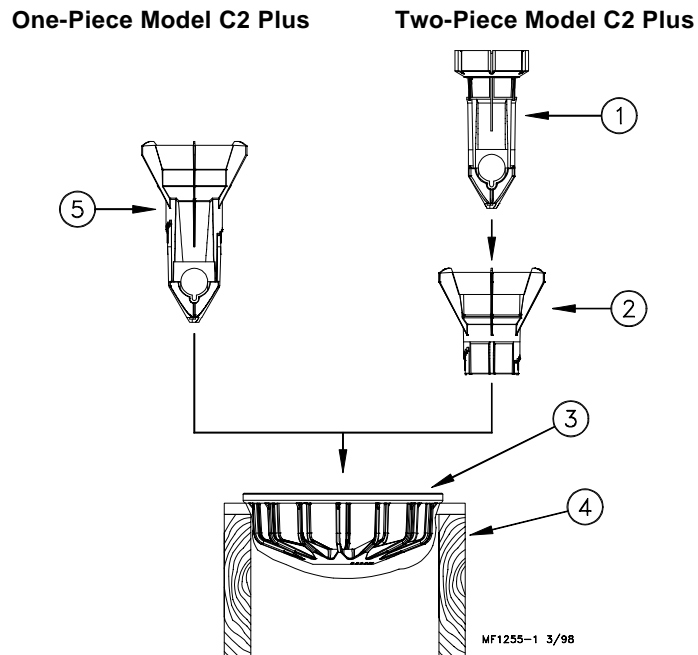

Figure 16. Model C2 Plus Feeder Assembly
2. Two-Piece Model C2 Plus Feeders: Install the Cone Adjustment and Support Cone in the grill, as shown in Figure 16.
One-Piece Model C2 Plus Feeders: Install the One-Piece Support Cone in the grill, as shown in Figure 16.